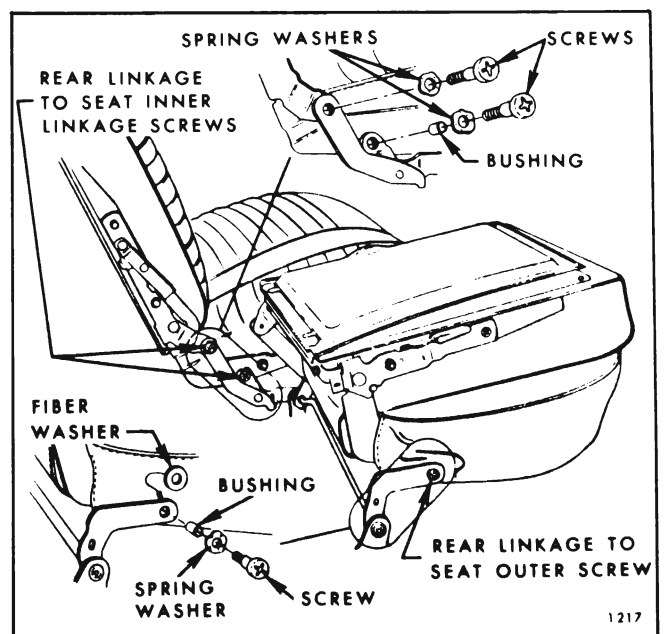

Fig. 15-73—Floor Pan Rear Linkage
2. Remove screws securing rear floor pan linkage to each side of seat cushion frame (Fig. 15-73); then, remove linkage assembly from seat.
3. To install, reverse removal procedure. Inserts in Figure 15-73 show relationship of linkage, bushings and attaching screws.
2. Remove floor pan rear linkage-to-seat inner linkage attaching screws (Fig. 15-73).
2. Remove outer linkage cover. Remove screw securing seat rear floor pan linkage to seat outer attaching screw (Fig. 15-73).